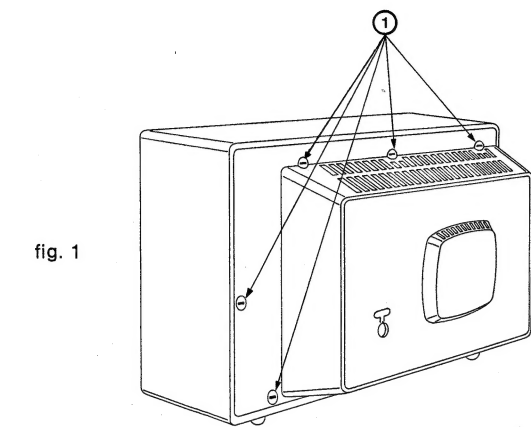

fig. 1
To remove the back panel release the catches (1) turning a screwdriver anticlockwise (fig. 1).